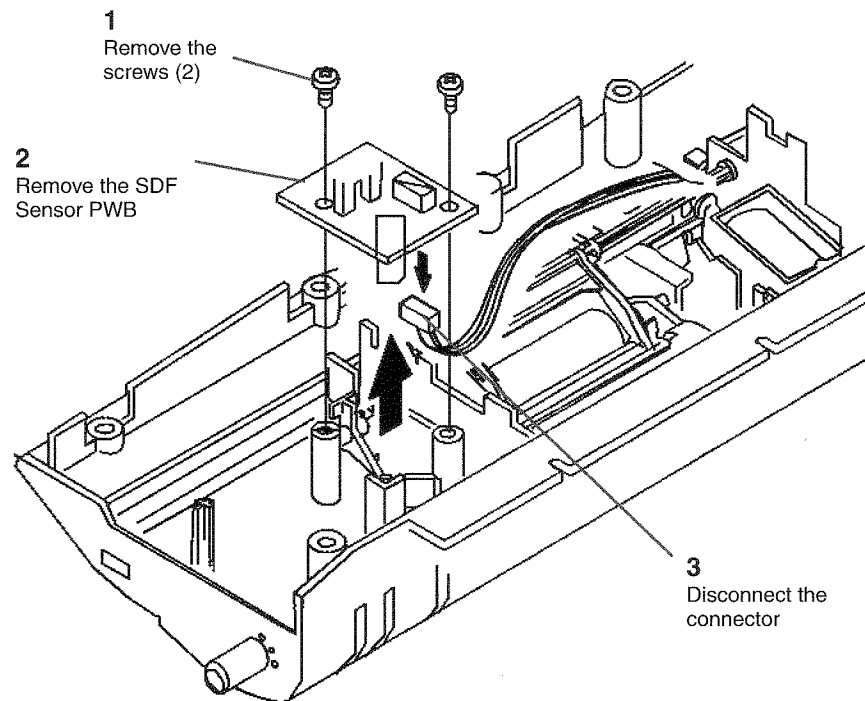

**Figure 4 Removing the Fax Control Panel**
4. (Figure 4 ) Remove the Fax Control Panel.